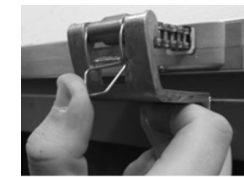

Figure 9
- J. Rotate the actuator 90°, bring the chain terminal up to the hinge "C" and insert the pin "D" in the channel. Connect the quick hook to the bracket (Fig. 9). The first time the hook is connected it may be a little tight; this is normal as the parts need to adjust to their sockets.